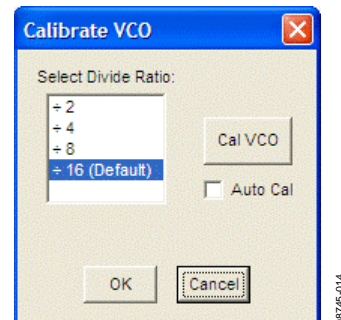

Figure 17. Calibrate VCO Window
14. Click the blinking yellow **Cal VCO** button to load the VCO calibration window. The default VCO divide ratio (16) works for all applications. Click the **Cal VCO** button in the **Calibrate VCO** window to begin calibration (see Figure 17). The PLL should now be locked and the **LD** (lock detect) LED on the left side of the board should be on.
The **Calibrate VCO** window shown in Figure 17 is accessed by clicking the Cal VCO button on the main window.